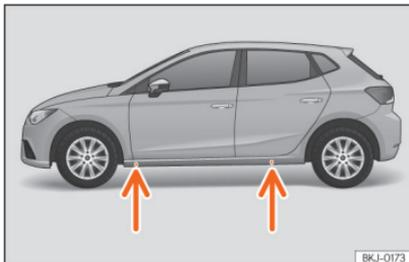

Fig. 40 Jack position points.
- Find the support point on the strut (sunken area) closest to the wheel to be changed » » Fig. 40.